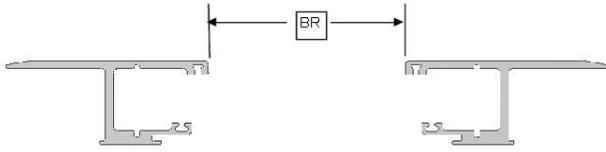

FIG. 5A
Finally, check for proper spacing by measuring between the rails at the canister and the tailgate end of the rails (Fig 5A). The measurement should be equal to or less than those in Fig 5B. The Rail Brackets and Shims have been pre-installed to achieve the proper Between the Rail dimensions (BR) when placed on an average factory truck bed. However, not all truck beds are average dimensionally and some have optional plastic caps or over the rail spray-in bedliners.